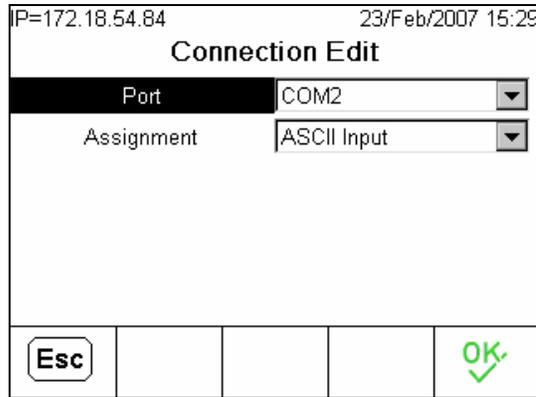
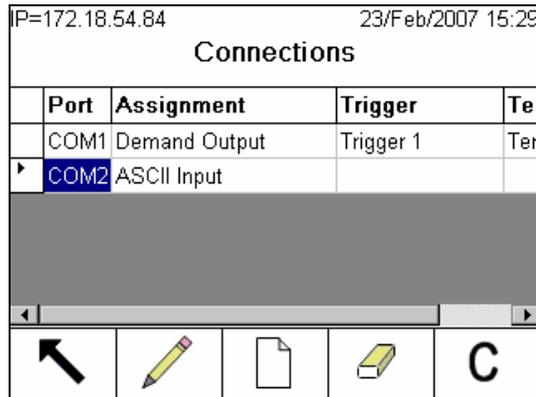

Figure 6-15: Creating an ASCII Input Connection
Figure 6-16: Connections View Screen, ASCII Input Configured
1. Create an ASCII Input in the IND780 Setup (at Communication > Connections) using one of the available COM ports. Figure 6-15 shows the Connection Edit screen with a new connection being configured, and Figure 6-16 the Connections view screen showing the new input.